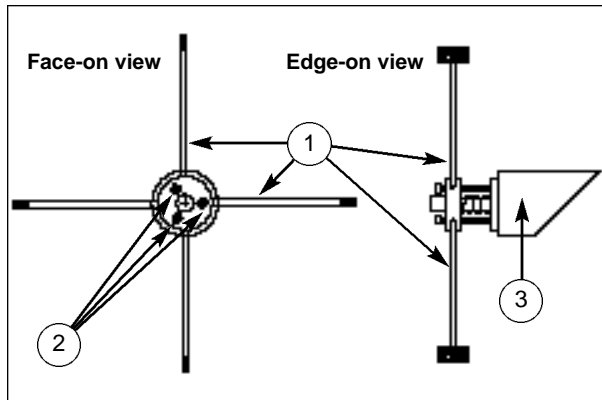
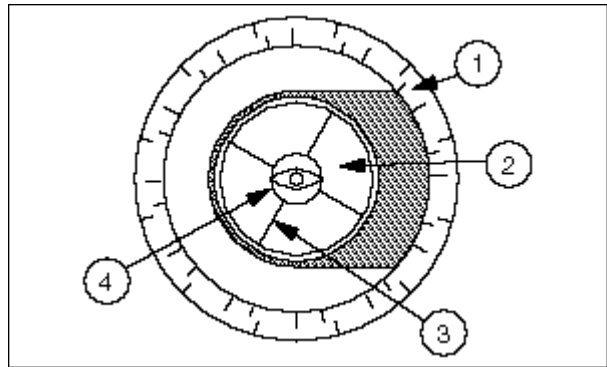
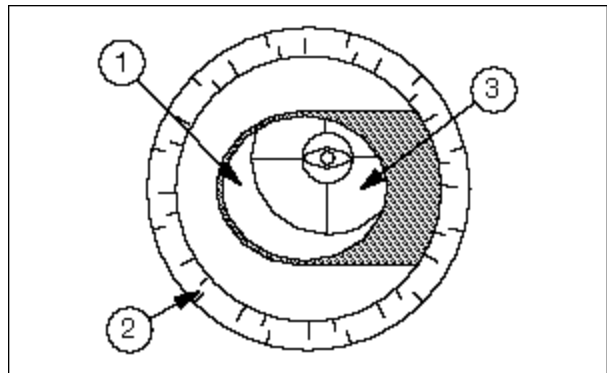
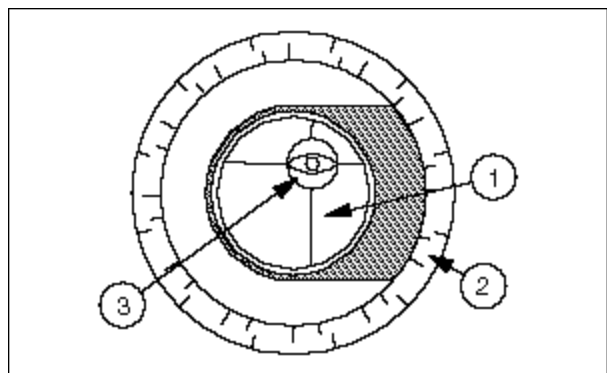

Fig. 4: Secondary Mirror Assembly. (1) Spider Vanes; (2) Tilt Screws; (3) Secondary Mirror Holder.
Fig. 5: Correct Collimation. (1) Round Edge of Focuser Drawtube; (2) Secondary Mirror; (3) Spider vanes; (4) Eye.
Fig. 7: Secondary Mirror Misalignment. (1) Secondary Mirror; (2) Round Edge of Focuser Drawtube; (3) Reflection of Primary Mirror.
Fig. 8: Primary Mirror Misalignment. (1) Secondary Mirror; (2) Round Edge of Focuser Drawtube; (3) Eye.
To inspect the view of the mirror collimation, remove the eyepiece and look down the focuser drawtube. The round edge of the focuser drawtube (1), Fig. 5, will frame the reflections of the primary mirror with the secondary mirror (2), Fig. 5, the spider vanes (3), Fig. 5, and your eye (4), Fig. 5. Properly aligned, all of these reflections will appear concentric (i.e. centered) as illustrated in Fig. 5. Any deviation from the concentric reflections will require adjustments to the secondary mirror assembly (Fig. 4), and/or the primary mirror cell.
Looking down the open end of the telescope tube, check to see if the secondary mirror system is centered in the optical tube. If the assembly is off-center, loosen one of the spider vane adjustment/lock knobs while unscrewing the opposite knob. Only make adjustments to 2 knobs at a time until the secondary mirror is centered in the drawtube. When the spider vane is correctly positioned, the view through the drawtube will look like Fig. 7. (Note that the secondary mirror is misaligned.)
If the secondary mirror (1), Fig. 7, is centered in the drawtube (2), Fig. 7, but the primary mirror is only partially visible in the reflection (3), Fig. 7, the 3 hex screws located on the secondary mirror assembly (2), Fig. 4, must be unthreaded slightly to refine the tilt-angle of the secondary mirror until the entire primary mirror can be seen centered within the secondary mirror reflection. When the secondary mirror is correctly aligned, it will look like Fig. 8. (Note that the primary mirror is misaligned.)
If the secondary mirror and the reflection of the primary mirror (1), Fig. 8, appear centered within the drawtube (2), Fig. 8, but the reflection of your eye (3), Fig. 8, appears off-center, one or more of the three primary mirror hex screws of the primary mirror cell will need to be adjusted. These primary hex screws are located behind the primary mirror, at the lower end of the main tube. Adjust the primary mirror alignment by slightly turning one hex screw at a time, looking through the focuser after each adjustment to determine if the mirror is moving in the correct direction.